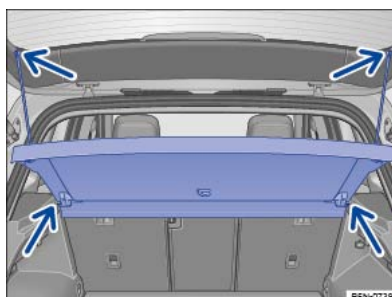

Fig. 181 In the luggage compartment: removing and installing the luggage compartment cover.
- Unhook the retaining straps from the boot lid ⇒ *Fig. 181* (upper arrows).
- Pull the luggage compartment cover out of the side retainers ⇒ *Fig. 181* (lower arrows).
- Push the luggage compartment cover into the side retainers ⇒ *Fig. 181* (lower arrows).
- Hook the retaining straps to the boot lid ⇒ *Fig. 181* (upper arrows).